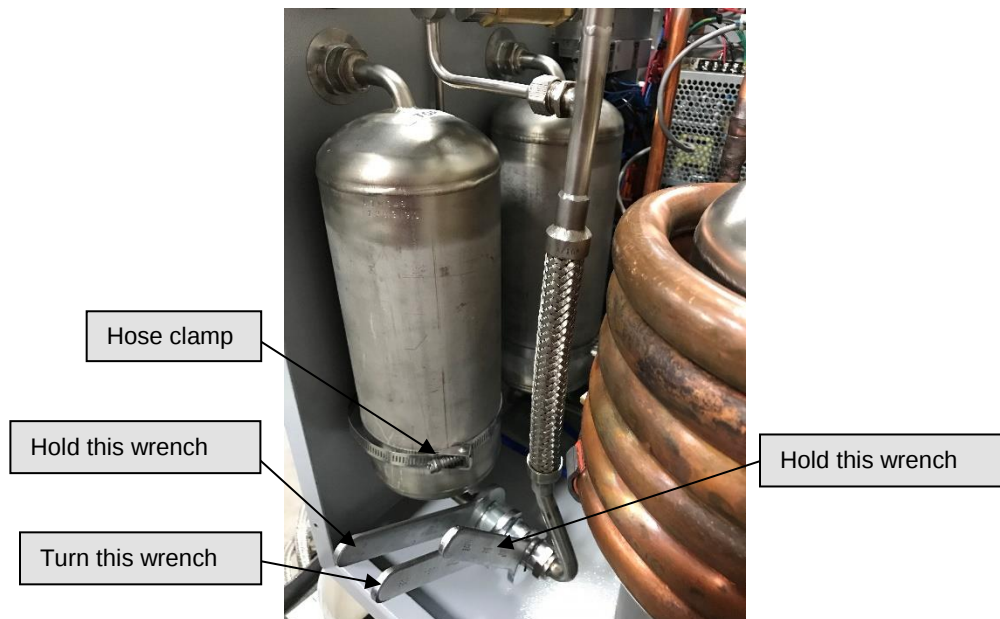

Figure 8-1: Disconnecting the Aeroquip adsorber
- 4) Using three wrenches disconnect the Aeroquip coupling between the adsorber and the oil separator as shown in Figure 8-1.